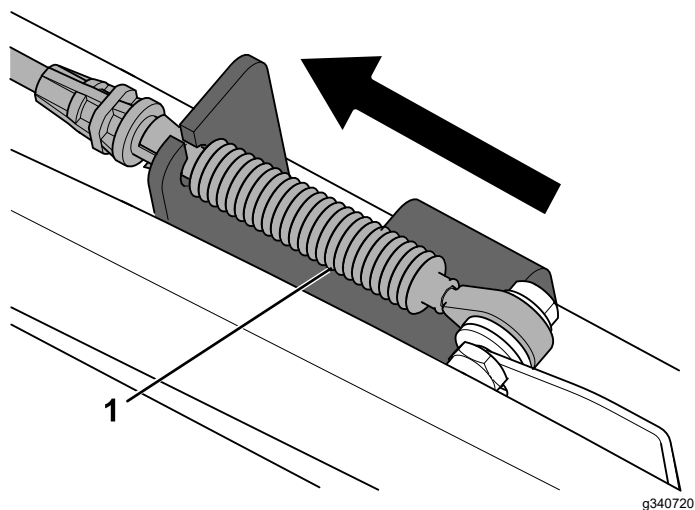

Figure 14
- 10. Slide the bracket forward so that the cable is tight (Figure 14).